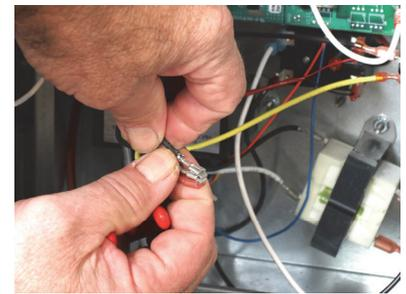
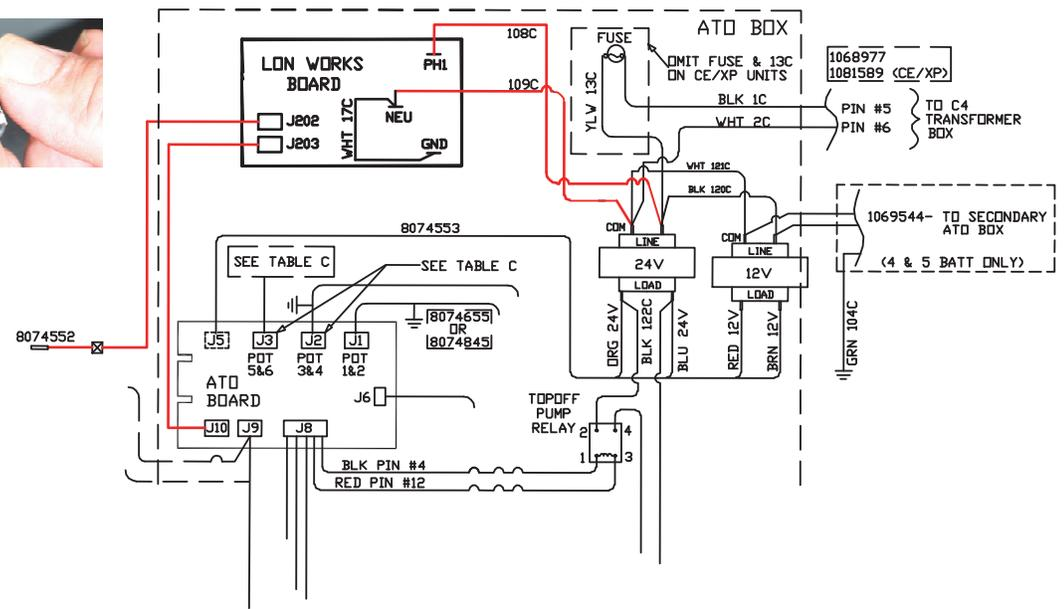

Figure 2: Remove piggybacks connecting the LON board to the 24V transformer.
Figure 5: Annotated wiring schematic.
6. Remove piggyback connections connecting the LON to the transformer and remove LON wiring from piggybacks. **See Figure 2 and Figure 5, an annotated wiring diagram.**